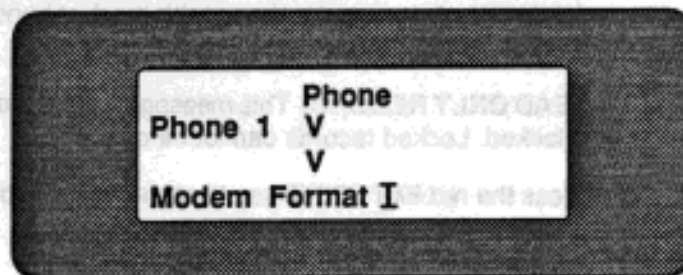

Figure 18: MAKING A PROGRAM ITEM INVISIBLE
8. At the program item level, the letter **V** appears to the right of the program item prompt – where program item data would normally be entered (see Figure 18). To make the item invisible, press the letter **I** and the white ENTER key. To make an invisible item visible, use **V**. **I** and **V** can be toggled by pressing the **SPACE** bar.